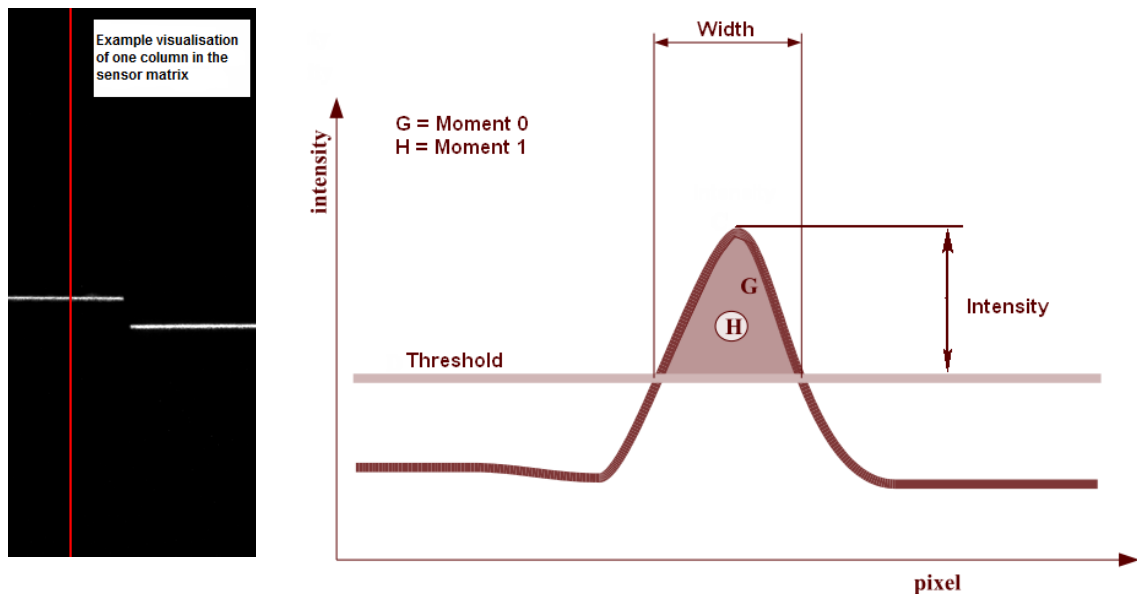

Fig. 1: How to get a measuring value from a reflection (evaluation of one sensor column)
- **Moment 0:** Corresponds to the integral intensity ("area of reflection") of the current reflection. The moment is thus defined by the integral of the intensity over the reflection width; see Fig. 1 (G). The value is transmitted as 32 bit unsigned integer field.